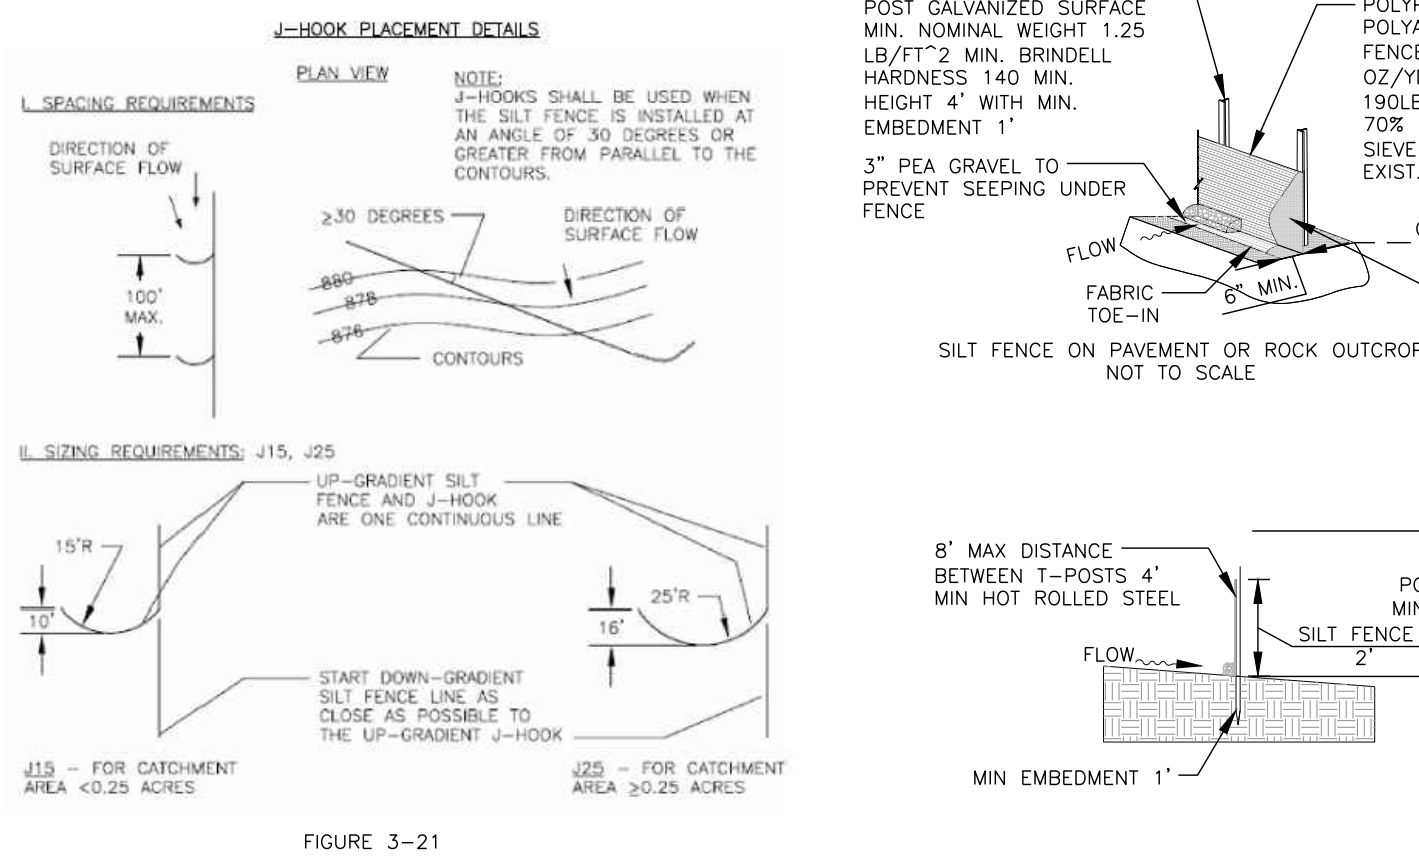

FIGURE 3-21
USE J-HOOKS TO TRAP AND POND RUNOFF FLOWING ALONG UPHILL SIDE OF SILT FENCE AS SHOWN IN FIGURE 3-21 OF THE LORA HIGHLAND LAKES WATERSHED ORDINANCE WATER QUALITY MANAGEMENT TECHNICAL MANUAL. THIS WILL FILTER OR SETTLE OUTFLOWS AND PREVENT RUNOFF FROM ESCAPING AROUND THE SIDES OF THE FENCE.
- LAY OUT FENCING DOWN-SLOPE OF DISTURBED AREA, FOLLOWING THE CONTOUR AS CLOSELY AS POSSIBLE. UTILIZE J-HOOKS AS NECESSARY AS SHOWN IN FIGURE 3-21 . THE FENCE SHOULD BE SITED SO THAT THE MAXIMUM DRAINAGE AREA IS ¼ ACRE/100 FEET OF FENCE.